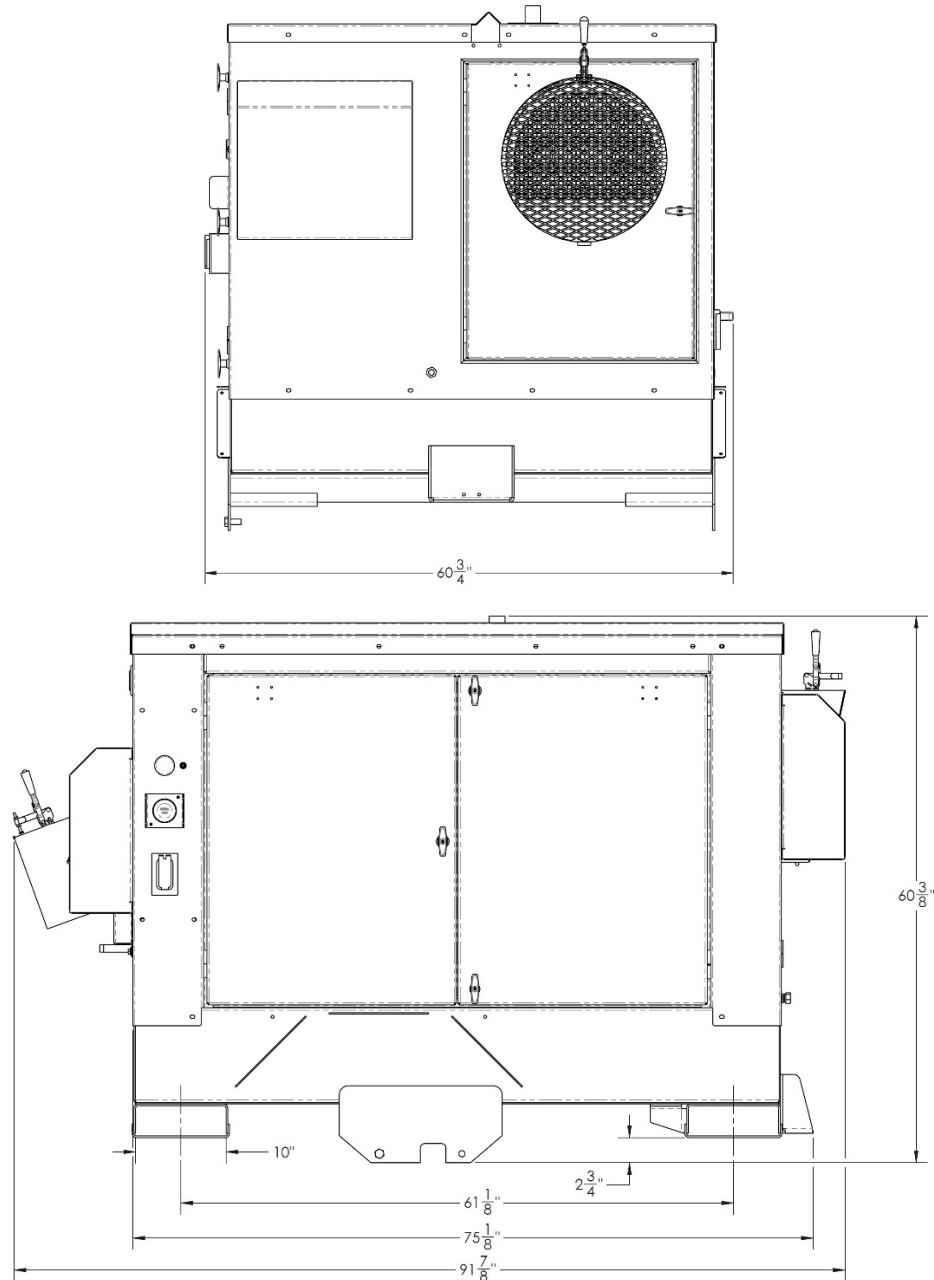

Figure 1 Compact Transport Configuration
- Forklift pockets are provided for lift truck usage. See figure 1 for dimensions.